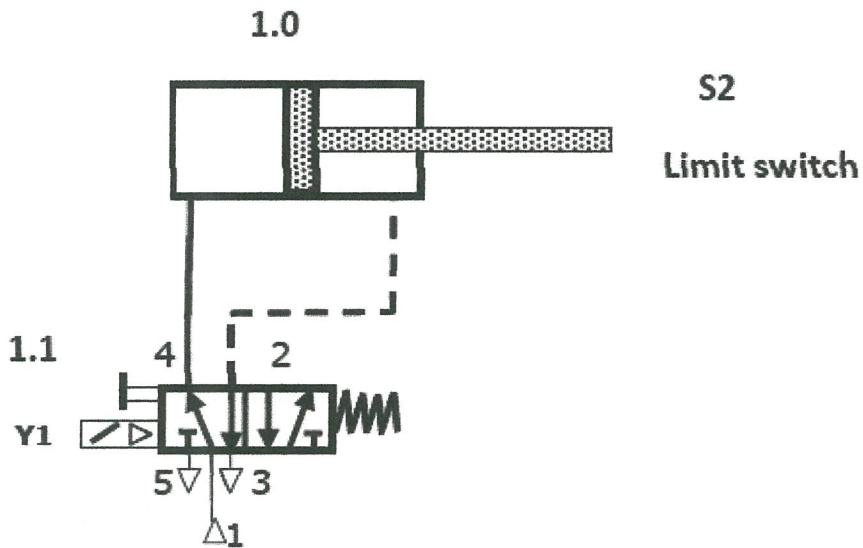

Figure Q4(a)
**Q4** (a) Figure Q4(a) shows a double acting cylinder in the process of extending the piston after the depression of a start push button. The piston shall stop and retreat when the limit switch S2 is actuated by the extending piston.